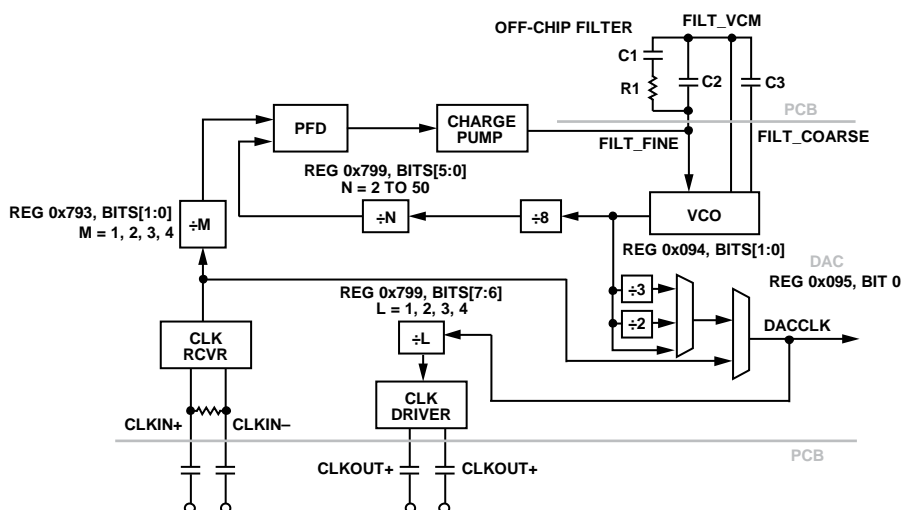

Figure 90. DAC PLL and Clock Path Block Diagram
The AD9176 includes an integer PLL/VCO block that allows generating a DAC clock (f_{DAC}) from an external reference frequency (f_{REF}) between 25 MHz and 3080 MHz, applied to the CLKIN± pins (see Figure 90). When using the on-chip PLL, select the predivider (M) via Register 0x793, Bits[1:0] to internally divide the reference frequency to be within the range of 25 MHz to 770 MHz of the phase frequency detector (PFD) circuitry block input. Enable the DAC PLL synthesizer by setting Register 0x095, Bit 0 to 0.
To generate the required VCO control voltage from the charge pump (CP) output, the AD9176 DAC PLL requires an external loop filter. The recommended filter is a passive low-pass filter of a topology similar to the one shown in Figure 90. Generally, the pass band width of the filter (bandwidth) trades off loop response time during a frequency change with loop stability after the initial frequency lock occurs. For proper filter layout and component selection, which results in optimal performance for most applications, refer to the documentation of the AD9176-FMC-EBZ evaluation board. The user may however customize the filter to fit a specific application, according to the PFD